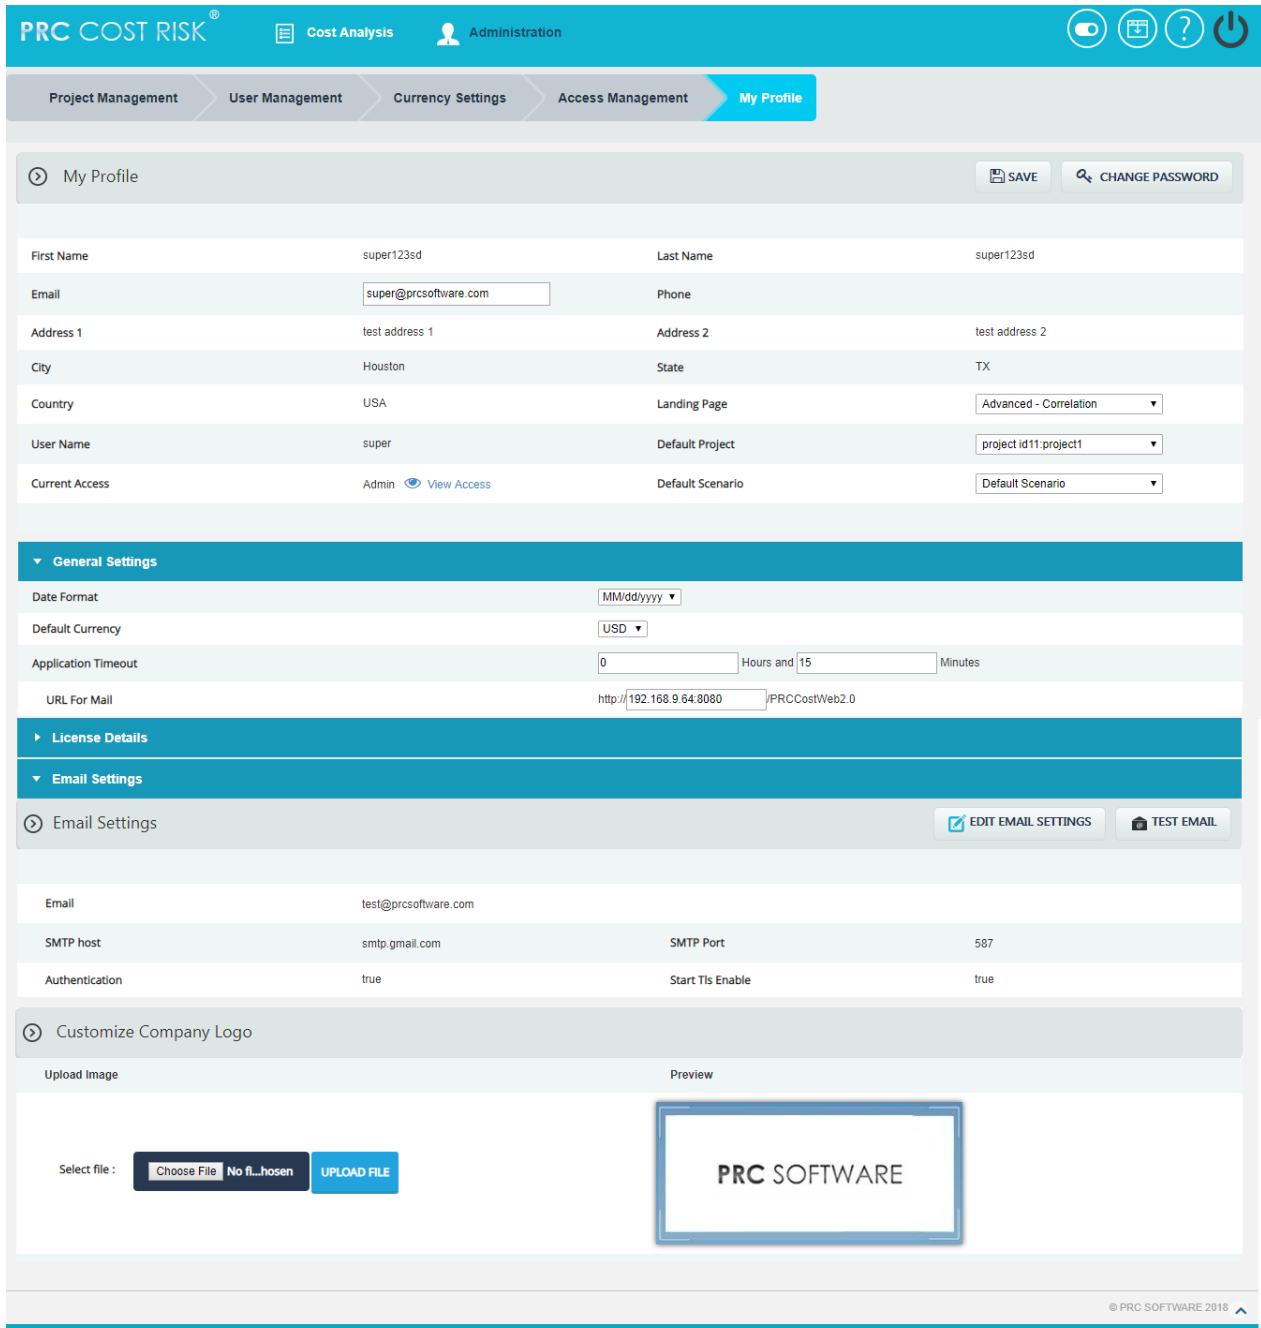

Figure1.19
3. Modify the necessary fields, and click the **SAVE** button to finish. (Figure 1.19)